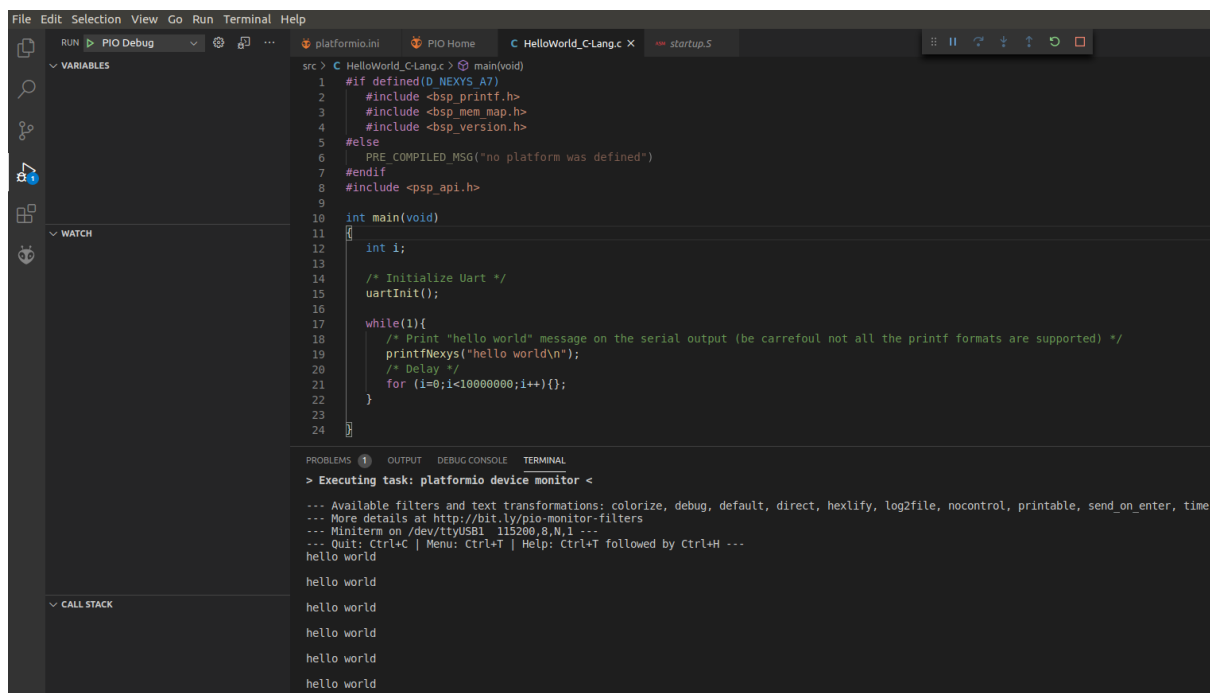

Figure 70. Execution of the program
5. The serial monitor repeatedly prints the message “HELLO WORLD !!!”, as shown in Figure 70.